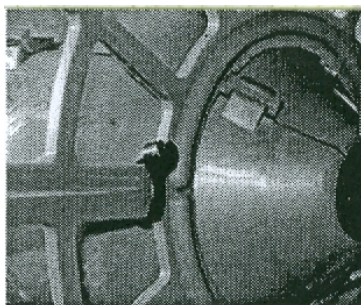

FIGURE 1
E. While assembling the first and last rollers the wheels must be installed. Spread apart a wheel and place it on the end of the roller that faces the "L" bracket. Tightly fasten one cable tie at the base of the wheel (See Figure 1) to secure it to the roller.